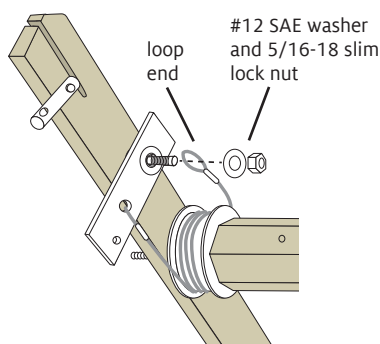

FIGURE 10: BRAKE CABLE
13. Take the loose end of the brake cable and wrap it under and around the brake drum three times. Start next to the double back beam support and wrap with loops moving towards the loom center, making sure not to overlap the cable (Figure 10). Place the loop end of the cable over the pre-installed bolt, then place another #12 SAE washer over the loop. Secure with a 5/16-18 slim lock nut. Be sure that the brake bar can pivot freely—if it does not, slightly loosen the lock nut.